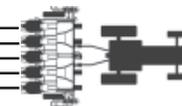

FIGURAS 36
**LUBRICAR A CADA 200 HORAS DE TRABAJO (FIGURAS 36)